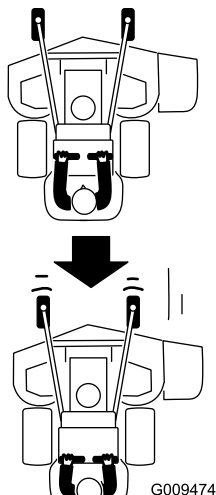

Figure 23
2. Slowly pull the motion-control levers rearward (Figure 23).